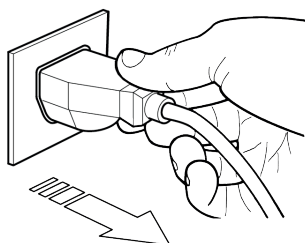
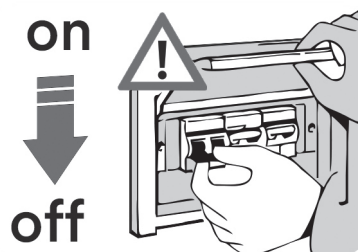

fig. 3
fig. 4
The equipment is not equipped on board with a disconnecter capable of simultaneously disconnecting power to two poles (phase and neutral) of the power supply. In fact, pressing the OFF button on the electronic control unit only stops the operation of the showcase, but does not switch off the power to the electrical components inside the showcase (lights, fans and terminal board). The disconnection can be done by means of a plug socket (fig.3), but the installer is strongly advised to place an omnipolar switch (fig.4) on the electrical connection upstream of the equipment to ensure the total disconnection of the showcase from the power supply.
**Pressing the OFF button on the electronic control unit stops the operation of the showcase but does not cause the disconnection of the power supply. It is therefore obligatory, in the event of maintenance work, to completely disconnect the showcase from the mains by pulling the power plug (fig.3) or by acting on the main switch installed upstream of the showcase (fig.4).**
**In the event of a fire, always immediately switch off the main power line switch (fig. 4).**